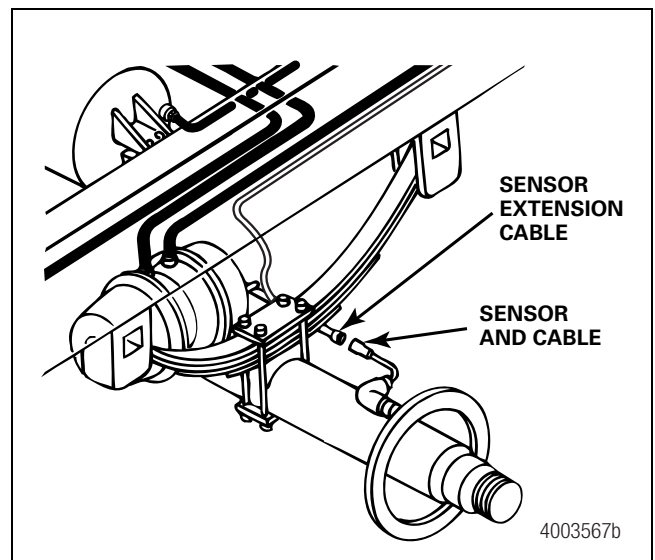

Figure 7
2. Connect the sensors and cables on the prepped axles to the sensor extension cables. Figure 7.